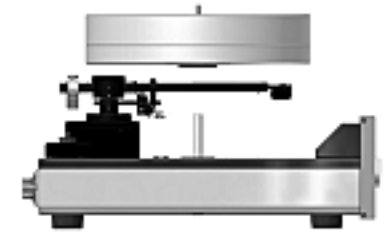

Figure 18
17. Very carefully center the Vertical Bearing Ceramic Shaft with the Vertical Bearing opening on the bottom of the Turntable Platter. Lower the Platter onto the Ceramic Shaft while keeping the platter parallel with the top surface of the Turntable. Refer to figures 18, 19 and 20.